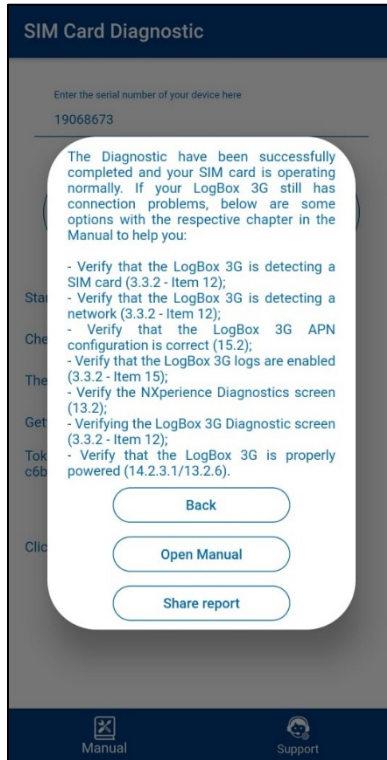

Figure 55 – Suggestions
- f. On the **NXperience** startup screen, as shown in **Figure 55**, pressing the Ctrl + Shift + F12 keys simultaneously will cause the firmware update screen to reappear, as shown in **Figure 56**.